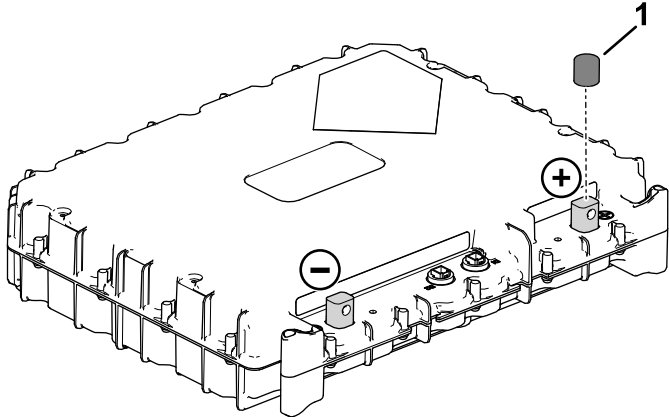

Figure 12
- A. Remove the cap (Figure 12) from the positive terminals.